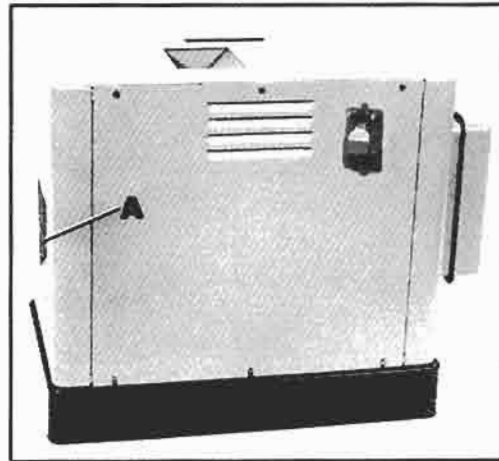
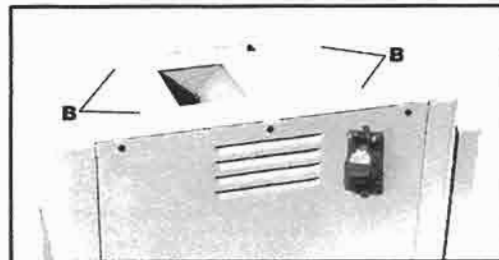
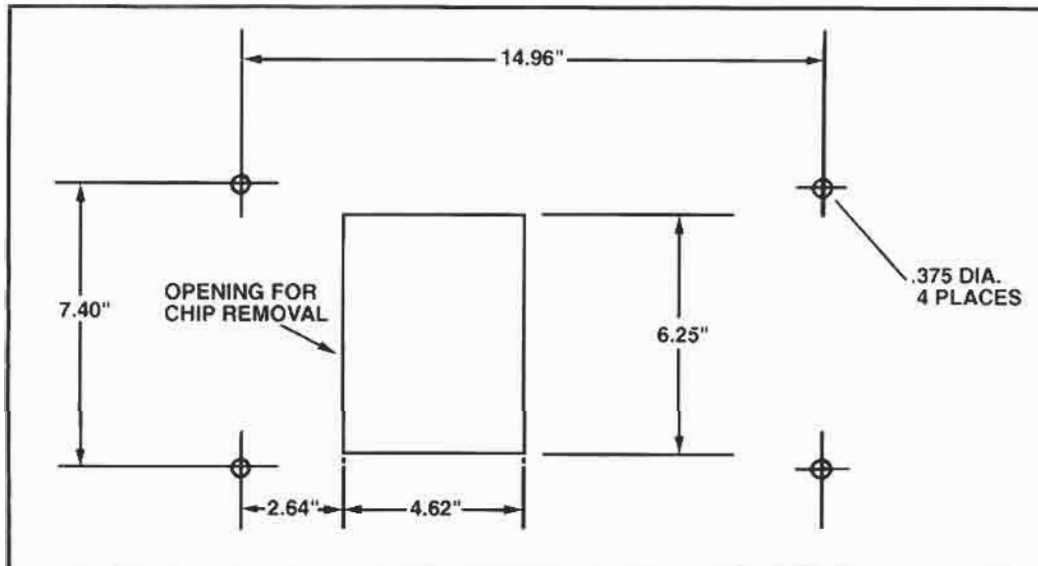

Fig. 2
Fig. 3
Fig. 4
If you purchased your jointer complete with stand and electricals, factory mounted and wired, the stand is shipped with the motor and switch completely wired and assembled to the stand, as shown in Fig. 2.
If the jointer is to be used with the stand shown in Fig. 2, the outfeed end of the jointer is to be at the same end of the stand as the chip chute (A) Fig. 2. Line up the four holes (B) Fig. 3, on the top of the stand with the four threaded holes on the bottom of the jointer base and fasten the jointer to the stand using the four 1" long socket head cap screws and lockwashers supplied.
If the jointer is to be used without the stand shown in Fig. 2, we recommend that the jointer be fastened to a supporting surface using the four threaded holes in the jointer base. Fig. 4, illustrates the size and center to center distance of the holes to be drilled in the supporting surface. **IMPORTANT:** Care must be taken that an opening is provided in the supporting surface to facilitate the removal of wood chips. The location and size of this opening is shown in Fig. 4. **NOTE:** If the motor is going to be located below the jointer an opening must also be provided for the belt.